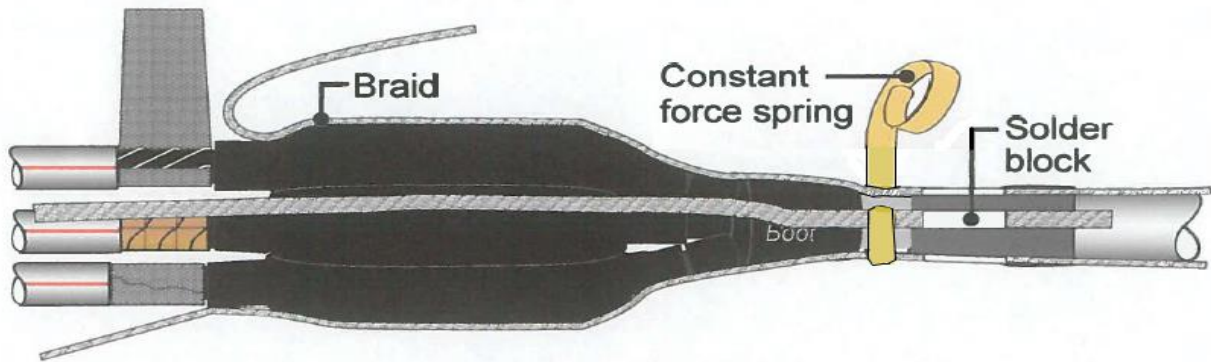

Figure 23
- Place three tinned copper braids across the heat shrink transition splices. Use vinyl tape to temporarily secure the braids. Make sure to place the braid's solder block on the lead cable side. Clean and abrade the cable jacket beyond the lead where the solder block will be located. Clean and abrade the lead cable between the shrunk tubes and the jacket. Wrap four layers of copper mesh around the lead sheath. Connect the three copper braids to the copper mesh with a heavy duty spring clamp provided in the kit. Refer to Figure 23.